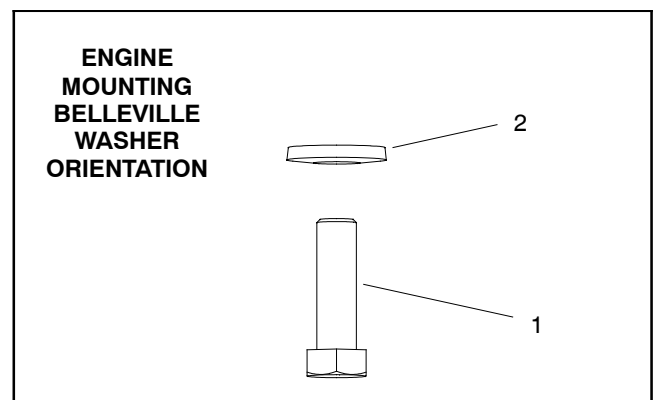
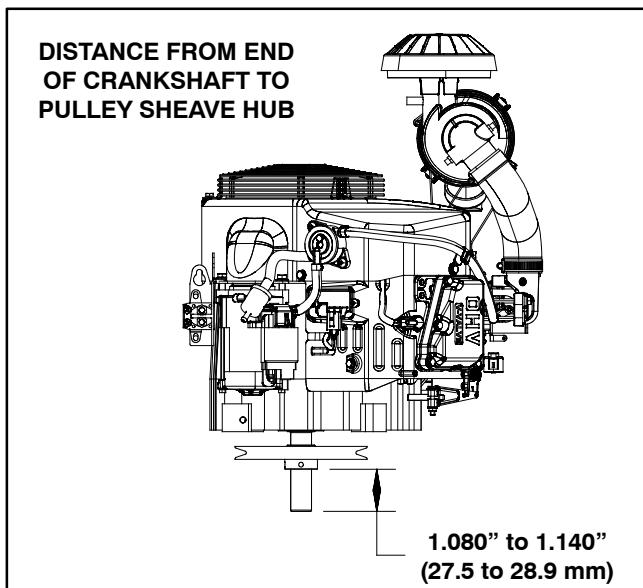

Figure 12
Figure 13
4. Secure engine to machine frame with four (4) cap screws and belleville washers. Make sure that belleville washers are orientated correctly. Washer orientation is shown in Figure 12. Torque cap screws from **27 to 33 ft-lb (37 to 44 N-m)**.
5. Install drive pulley (item 4) to the engine crankshaft:
B. Apply Loctite #242 (or equivalent) to threads of set screws (item 5).
C. Slide drive pulley onto engine shaft so that the distance from the pulley hub to the end of the shaft is from **1.080" to 1.140" (27.5 to 28.9 mm)** (Fig. 13).